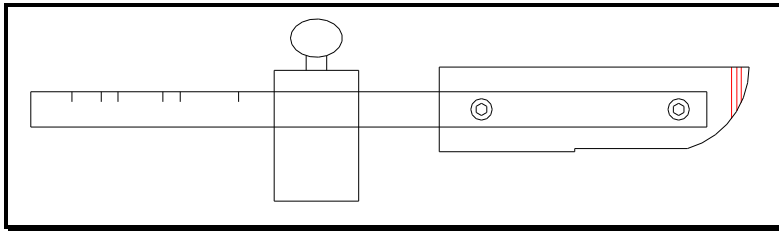

Figure 5 – Journal Length Gage
- 8) **Check for proper journal length** using a journal length gauge or “M” gauge. See Figure 5 (AAR Figure 5.26). This is especially important when the fillet has been reworked to ensure that the bearing will be properly clamped.